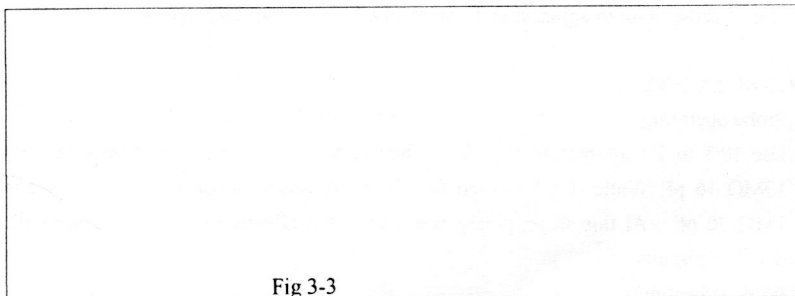

Fig 3-3
(4) Connects the calibration signal [5] to Y input terminal[19] with 1:1 probe
(5) Adjust positions [7] , [16] to obtain waveform like Fig 3-3.